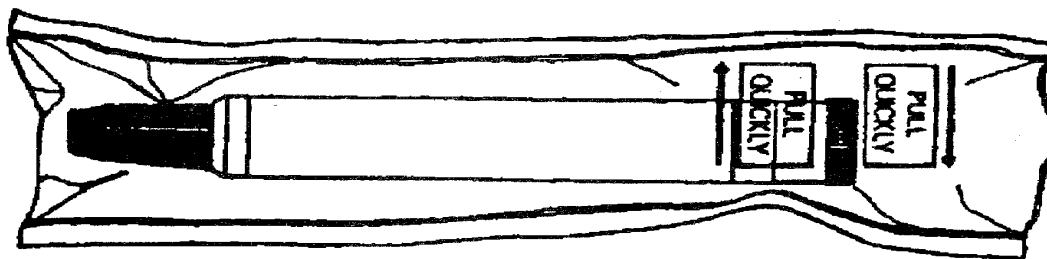

Figure 5-18. Convulsant Antidote for Nerve Agent
c. The CANA (Figure 5-18) is similar to existing autoinjectors but modified to hold a 2-milliliter volume of diazepam. The exterior of the autoinjector will be distinguishable from the NAAK kit by two flanges on the length of the barrel. The autoinjector is packaged in a chemically hardened material. The